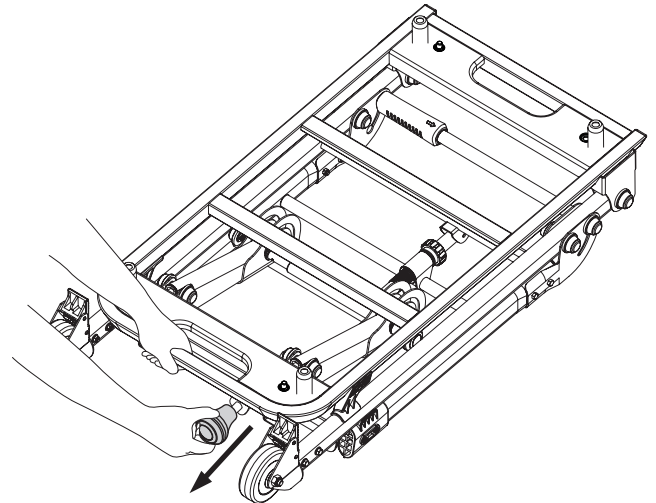

Fig. 5
1. Place the folded stand on a flat surface, as shown in Fig. 5.
2. Pull out the lock knob, then lift the handle (Fig. 5).